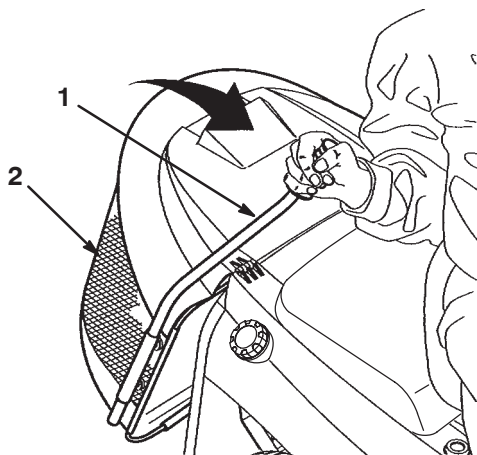

Figure 12
2. Pull the collector rod forward to tilt the collection bin (Fig. 12).